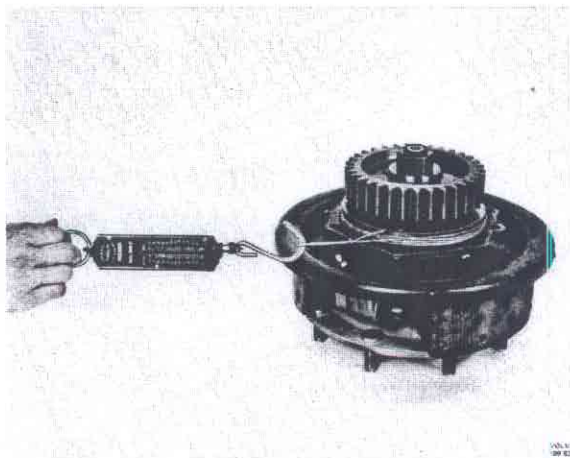

Fig. 77-21. Measuring the pre-load on hub
4. Fit a spring balance like the one shown in Fig. 77-21. Note the reading on the balance. This shows the friction of the sealing rings.
5. Tighten the nut so that the clearance disappears and changes to pre-loading. Check the pre-loading with the spring balance according to Fig. 77-21. Correct load on the spring balance should be the value obtained in point 4 plus 42-48 N (4.2-4.8 kp = 9.2-10.5 lbf) for new bearings. For run-in bearings, the load should be that obtained in point 4 plus 24-28 N (2.4-2.8 kp = 5.3-6.2 lbf).